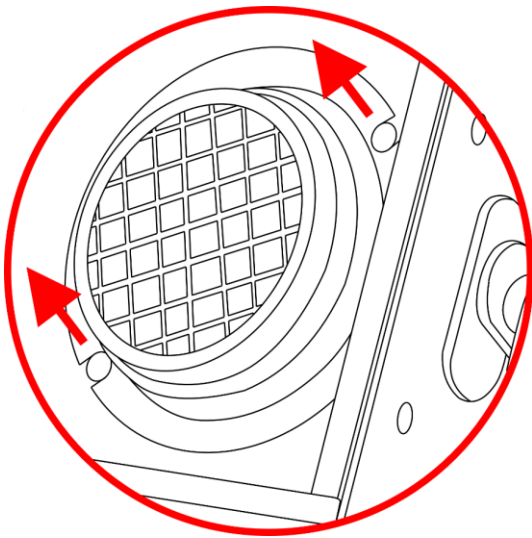

Fig. 03
- 01) Loosen the 2 screws on the front of the lamp housing (Fig. 03).